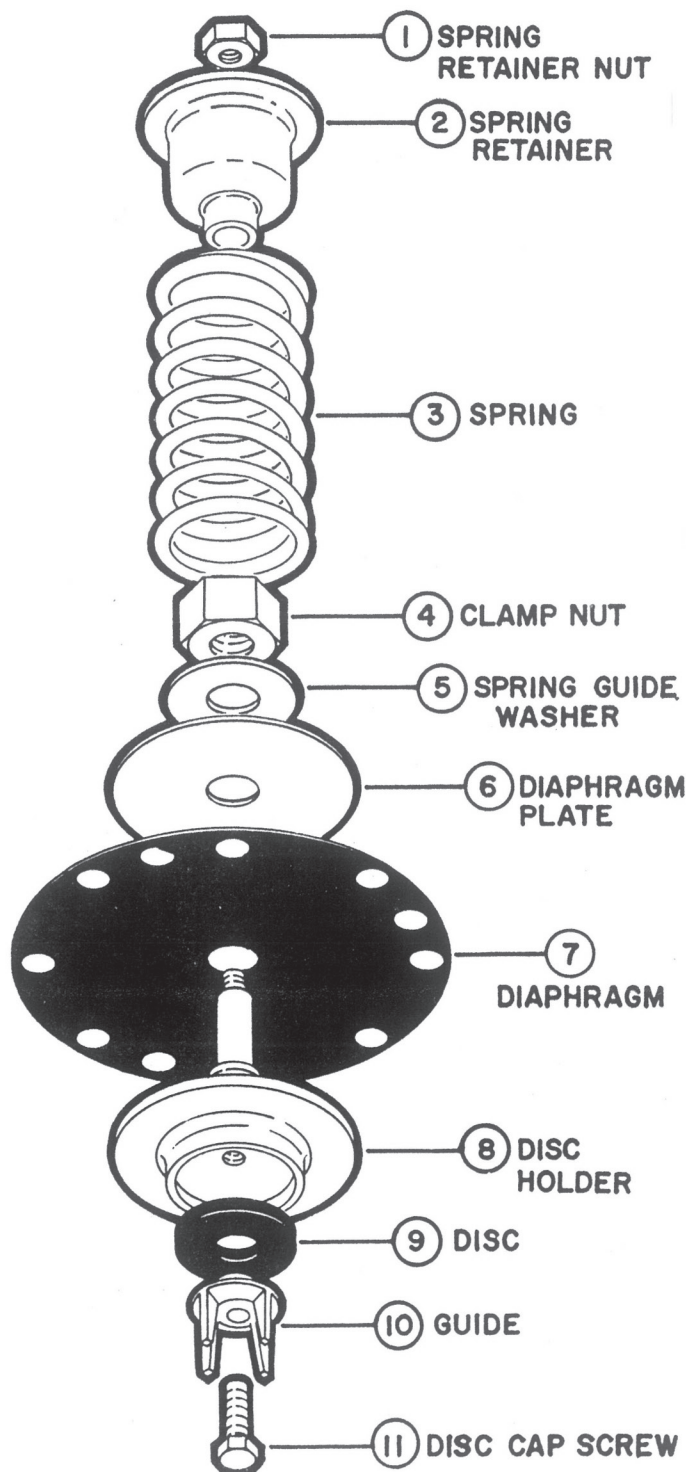

FIGURE 48
1. Disassembly (see Figs. 48 and 49)